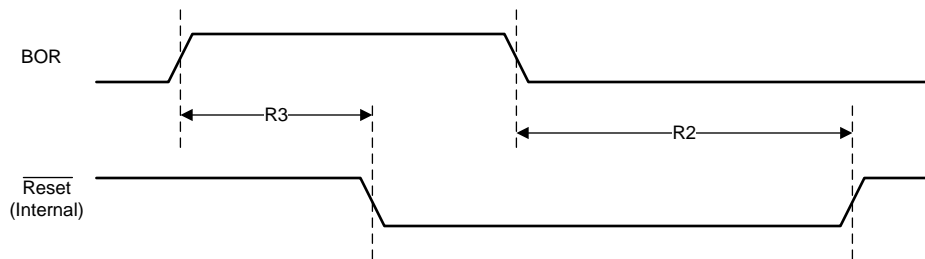

图 5-8. Brownout Reset Timing
| R3  | $t_{BOR0DLY}^{(1)}$  | BOR0 to internal reset assertion delay (5) (see 图 5-8)               | 0.44 |   | 125                 | $\mu s$ |